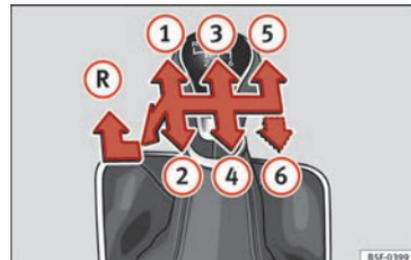

Fig. 44 Gear shift pattern of a 5 or 6-speed manual gearbox
The position of the gears is indicated on the gearbox lever »» **Fig. 44**.
- With the gearbox lever in neutral, push it upwards, move it to the left as far as it will go and then forwards to select reverse »» **Fig. 44**